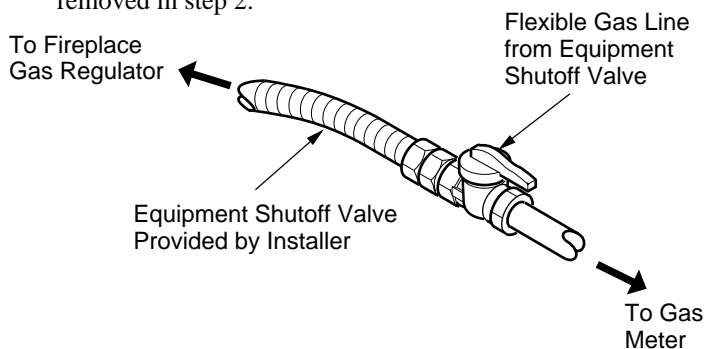

Figure 19 - Attaching Flexible Gas Lines Together
NOTICE: Most building codes do not permit concealed gas connections. A flexible gas line is provided to allow accessibility from the fireplace (see Figure 19). The flexible gas supply line connection to the equipment shutoff valve should be accessible.
- Attach flexible gas line to gas supply (see Figure 19). Check connection of flexible gas line attached to gas regulator of fireplace (see Figure 19).